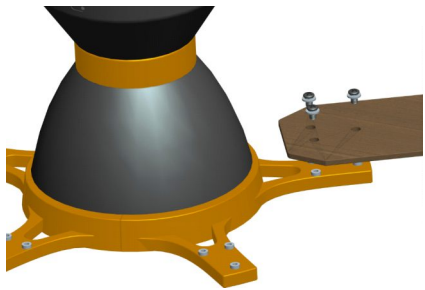

Fig 7.1
7.1 Locate 15 blade attachment screws with integrated washers in the hardware pack. Make sure the screw holes on each fan blade matches the corresponding holes on the blade bracket and tighten the blade screws. (See Fig 7.1)